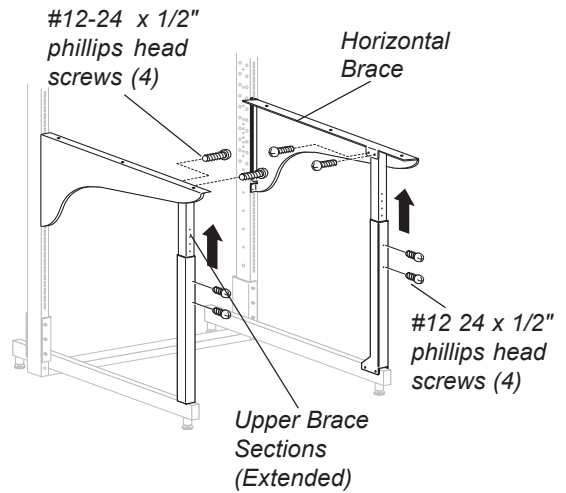

Figure 4
3. Slide the Upper Brace sections up until they contact the Horizontal Braces as shown in Figure 4.
4. Screw the #12-24 x 1/2" self-tapping phillips screws through the Horizontal Braces and into the threaded holes in the Telescoping Legs as shown in Figure 4.